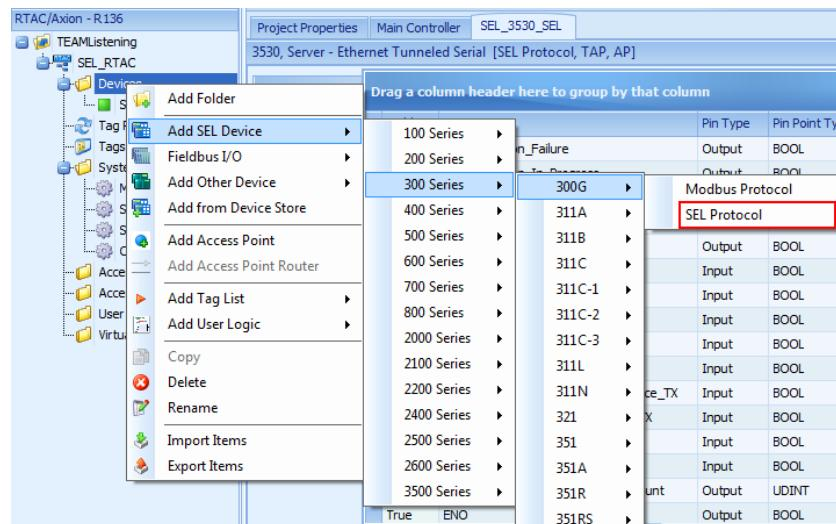

Figure 157 Add an SEL-300G With SEL Protocol
- Step 8. Configure the settings of the relay (the SEL-300G in this example). From the **Insert** tab, add a **300G** with **SEL Protocol**, as shown in *Figure 157*.